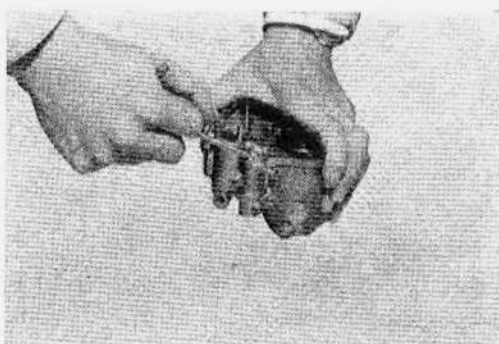

Figure 128
(16) Unloosen accelerating jet passage screw and remove accelerating jet (Fig. 128).